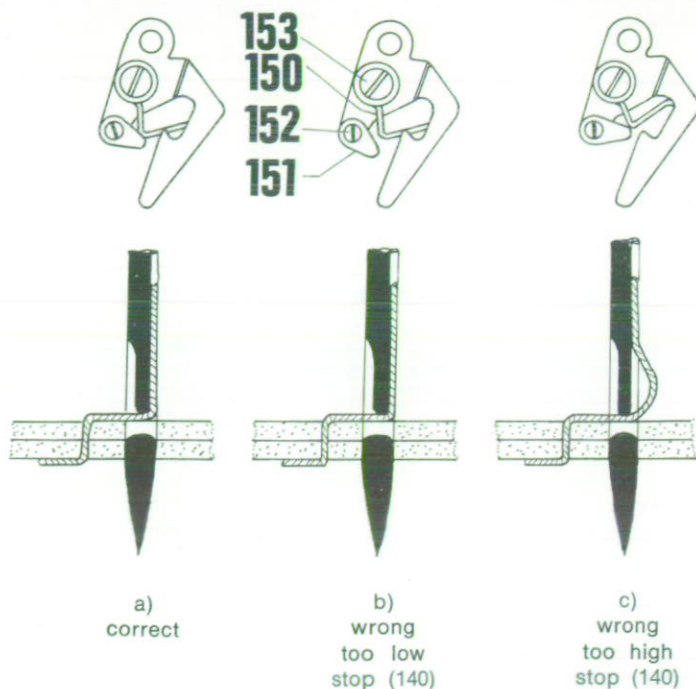

Fig. 55
The thread regulator spring (150) should lie on the limiter (151) at the instant when the eye of the needle enters the work. The stop (151) can be set to the correct position by turning screw (152) (Fig. 55). The tension of the regulator spring (150) is also important. This must neither be too loose nor too tight. The correct setting is obtained when the spring (150) takes off the thread with the necessary «liveliness». The tension can be made stonger or weaker by turning screw (153) to left or right.